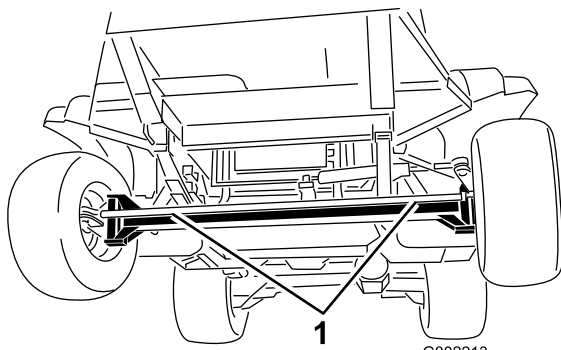
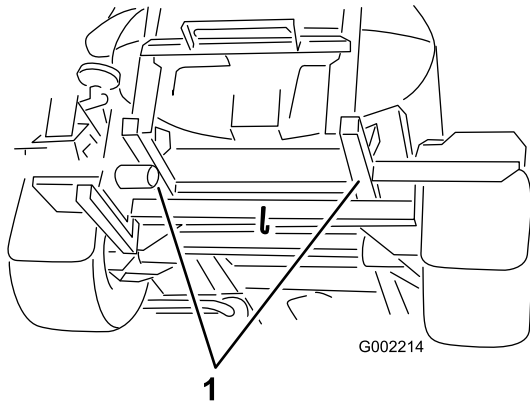

Figure 57
Figure 58
- Affix a tow line to the frame; refer to the front and rear towing points (Figure 57 and Figure 58).